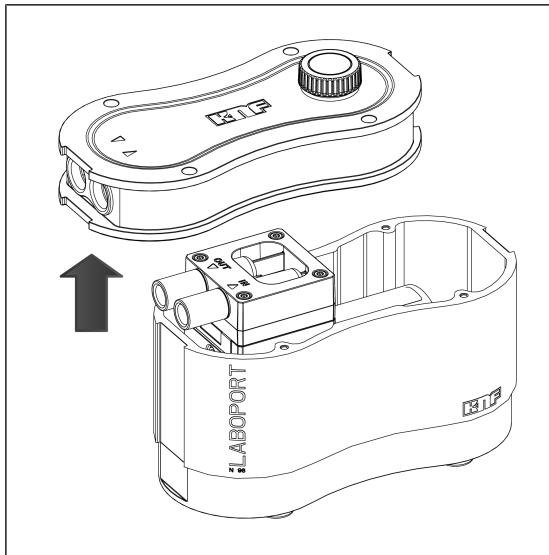

Fig.9: Removing the housing cover
3. Carefully remove the housing cover (2) and place it next to the pump housing (3) (see Fig. 9).
- i** When removing the housing cover (2), make certain that no larger tensile forces are exerted on the cables and that the cables are not damaged